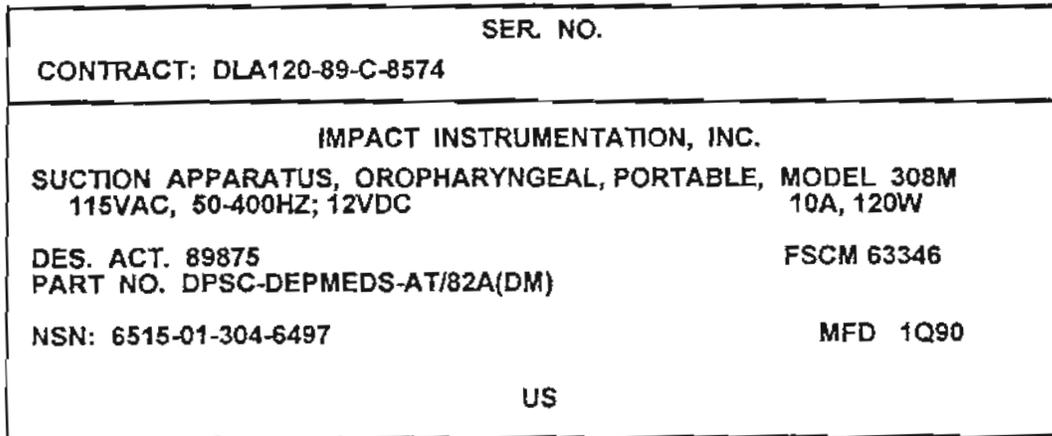

Figure 1-10. Manufacturer data plate.
(1) The suction apparatus manufacturer data plate (located on the top outside lid of the case) is depicted in figure 1-10.